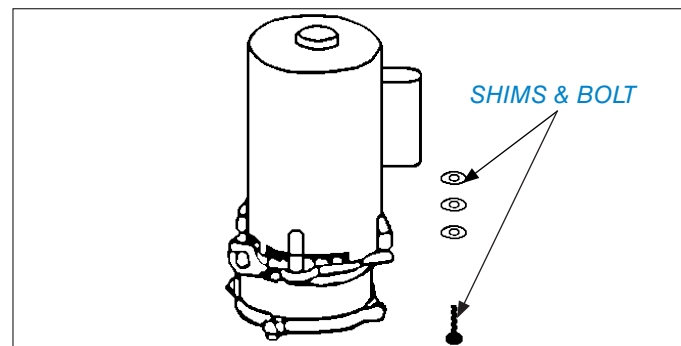

FIGURE 16. INSTALL BOLTS AND REQUIRED SHIMS
4. Install the bolts and required shims (FIGURE 16).